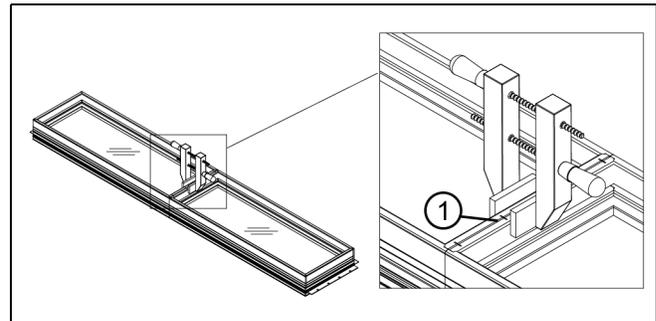

Figure 32
4. Make sure mulled units are flush and square at sill and jamb liners. Fasten interior of mulled units with 1/2" x 1" 16 gauge staples spaced every 5" (27). See Figure 32.